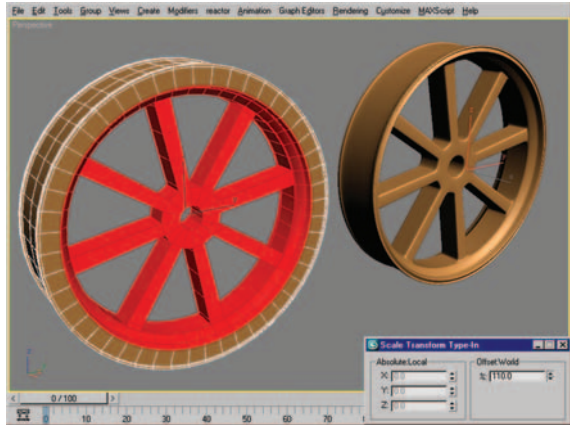

Figure 8.114 Polygon selection and resulting mesh after scaling the selection.
25. At the Polygon subobject level, select the polygons seen in Figure 8.114 (left) and use the Scale Transform Type-In to scale them to 110% (Figure 8.114, right).